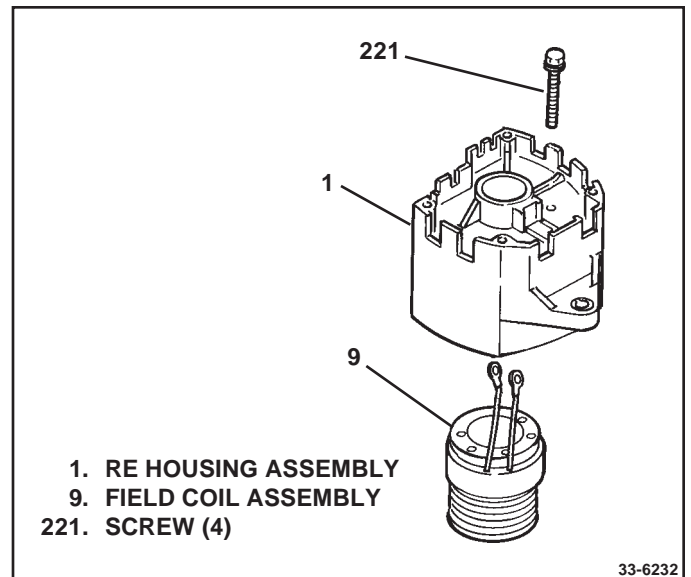

Figure 29. Installing Field Coil
- Add ball and roller bearing lubricant (1948791) until cavity between plug (222) and bearing outer race (2) is about half full, placing grease so that it touches the edge of the bearing outer race in several places around the outside of the bearing. Cover opening with tape to prevent contamination.
- Turn leads so that they will be properly positioned after installation. (See Fig. 29) Place field coil and support (9) into rectifier end housing (1), guiding leads through hole into electronics compartment and aligning mounting holes in support with screw holes in rectifier housing. Ensure leads do not touch housing. Install 4 field coil and support attachment screws (221). (3 screws used in early production)